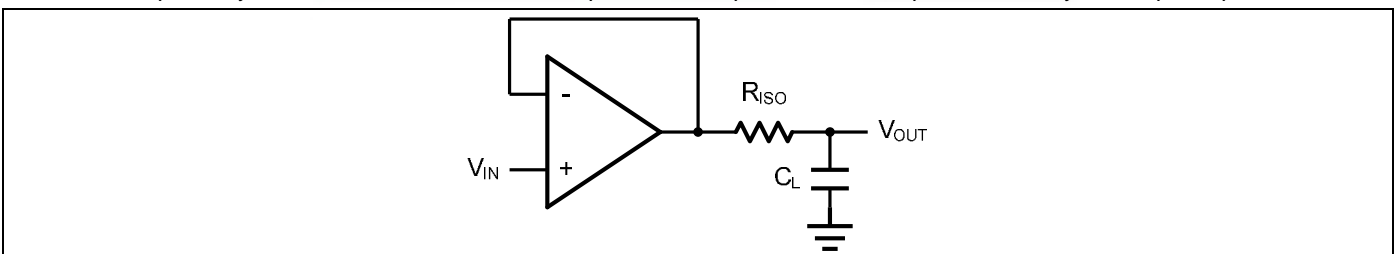
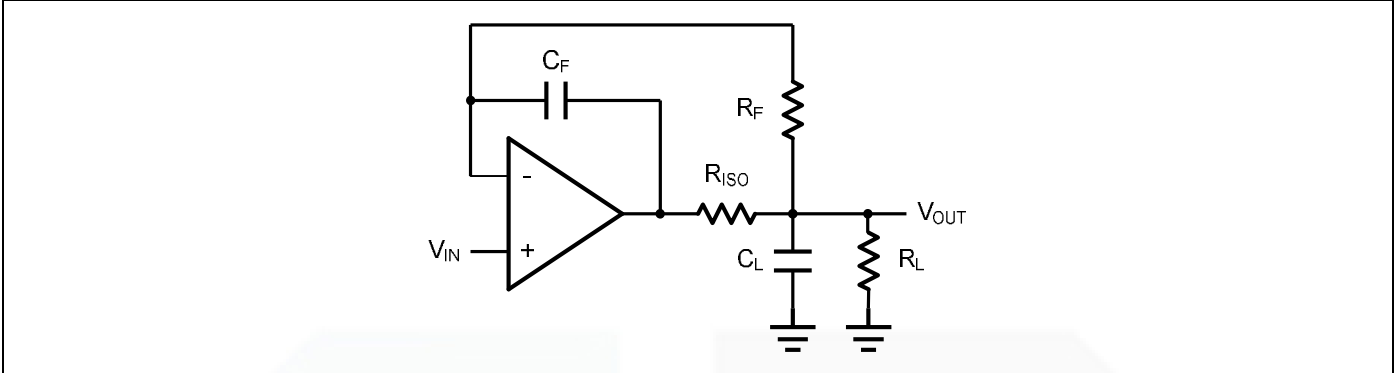

Figure 2. Indirectly Driving a Capacitive Load Using Isolation Resistor
Figure 3. Indirectly Driving a Capacitive Load with DC Accuracy
The GS8041 family is optimized for bandwidth and speed, not for driving capacitive loads. Output capacitance will create a pole in the amplifier's feedback path, leading to excessive peaking and potential oscillation. If dealing with load capacitance is a requirement of the application, the two strategies to consider are (1) using a small resistor in series with the amplifier's output and the load capacitance and (2) reducing the bandwidth of the amplifier's feedback loop by increasing the overall noise gain. Figure 2. shows a unity gain follower using the series resistor strategy. The resistor isolates the output from the capacitance and, more importantly, creates a zero in the feedback path that compensates for the pole created by the output capacitance.
The circuit in Figure 3 is an improvement to the one in Figure 2. R_F provides the DC accuracy by feed-forward the V_{IN} to R_L . C_F